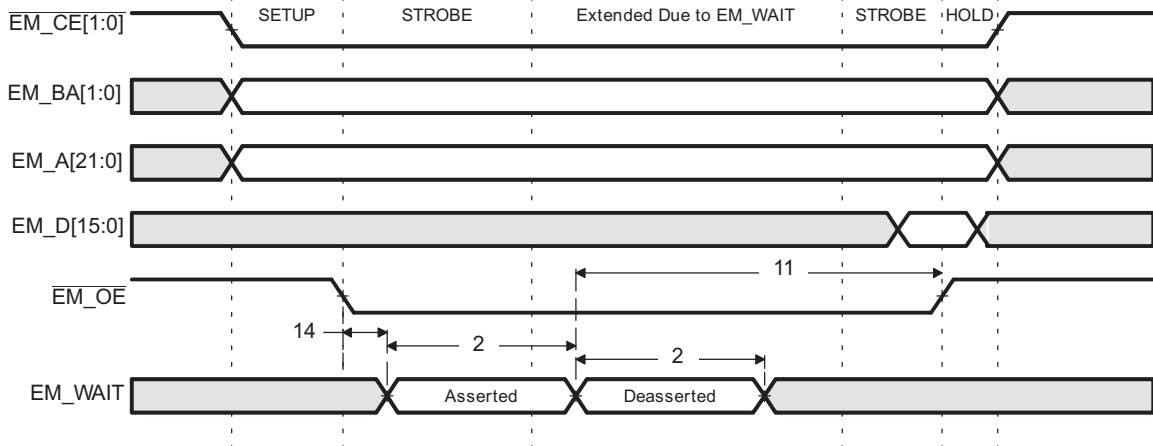
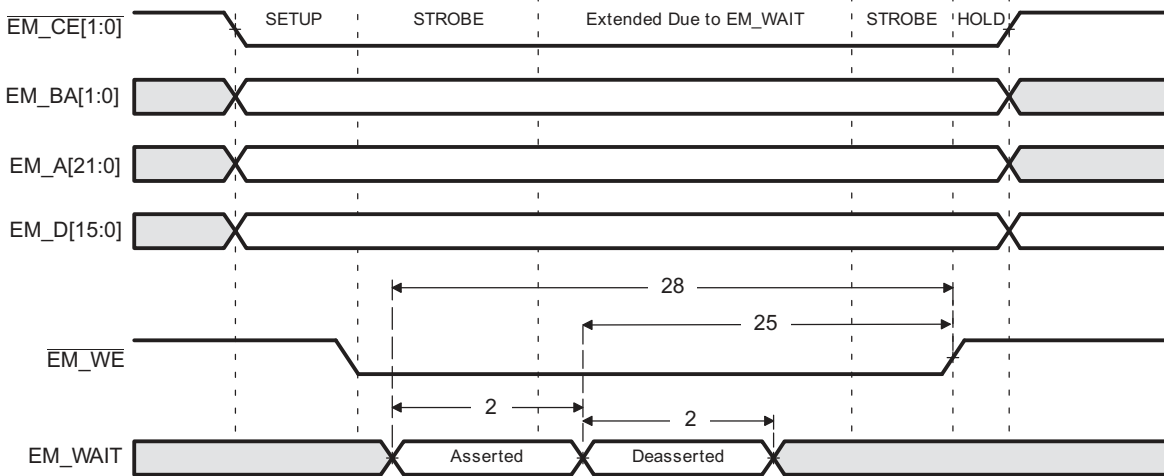

Figure 6-15. EM\_WAIT Read Timing Requirements
Figure 6-16. EM\_WAIT Write Timing Requirements
(2) Setup before end of STROBE phase (if no extended wait states are inserted) by which EM\_WAIT must be asserted to add extended wait states. Figure 6-15 and Figure 6-16 describe EMIF transactions that include extended wait states inserted during the STROBE phase. However, cycles inserted as part of this extended wait period should not be counted; the 4E requirement is to the start of where the HOLD phase would begin if there were no extended wait cycles.